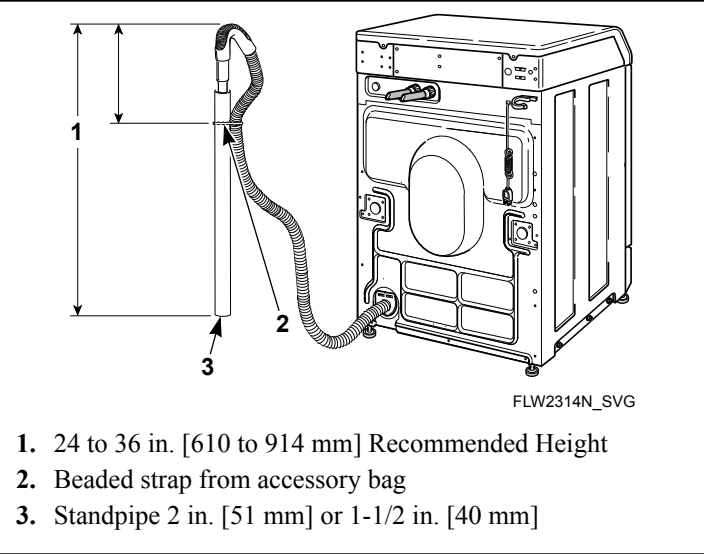

Figure 8
- 2. Remove the beaded tie-down strap from accessories bag and place around standpipe and drain hose. Refer to Figure 8 .